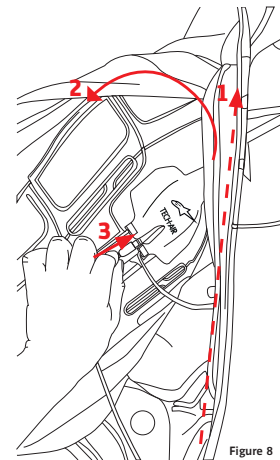

Figure 8
*Tip: When the Tech-Air® Race airbag system is installed in a leather suit, the MicroUSB port can be accessed easier by unzipping one of the vest attachment zips (1) and partially lifting the vest outward. (See figure 8).*
Tip: It is easier to access the master switch (8) by first unzipping one of the Vest attachment zips (1) and partially lifting the Vest out of the suit (See Figure 8). Naturally after switching the master switch back on, the vest attachment zip requires to be reattached.